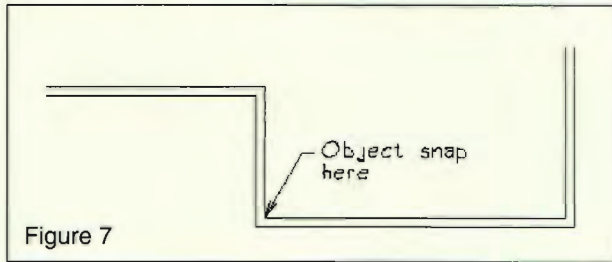

Figure 7
8. Object snap (middle mouse button) to the corner of the wall as shown in Figure 7.